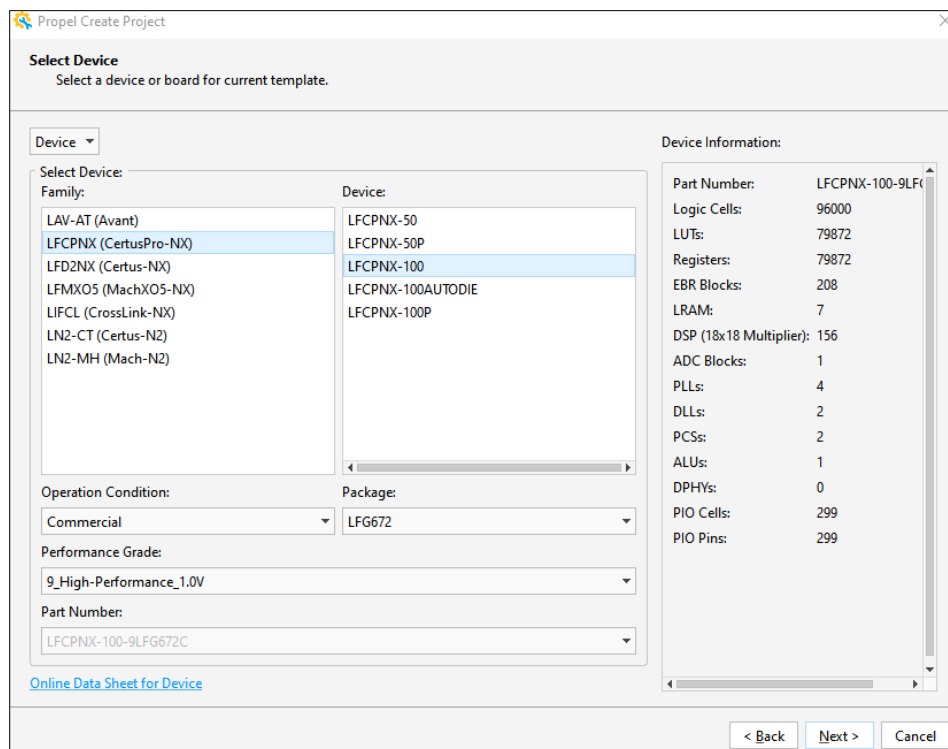
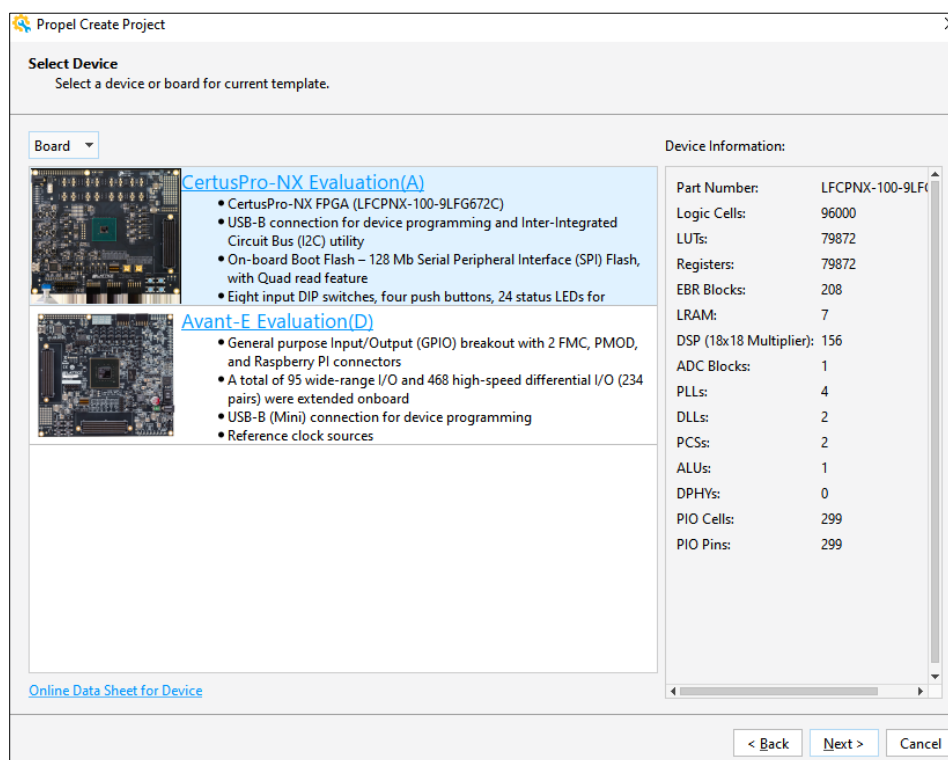

Figure 4.5. Select Device Settings
Figure 4.6. Select Board Settings
5. Select the target device or board. Device is for a plain SoC design while Board includes I/O constraints for the target board (Figure 4.5 and Figure 4.6).